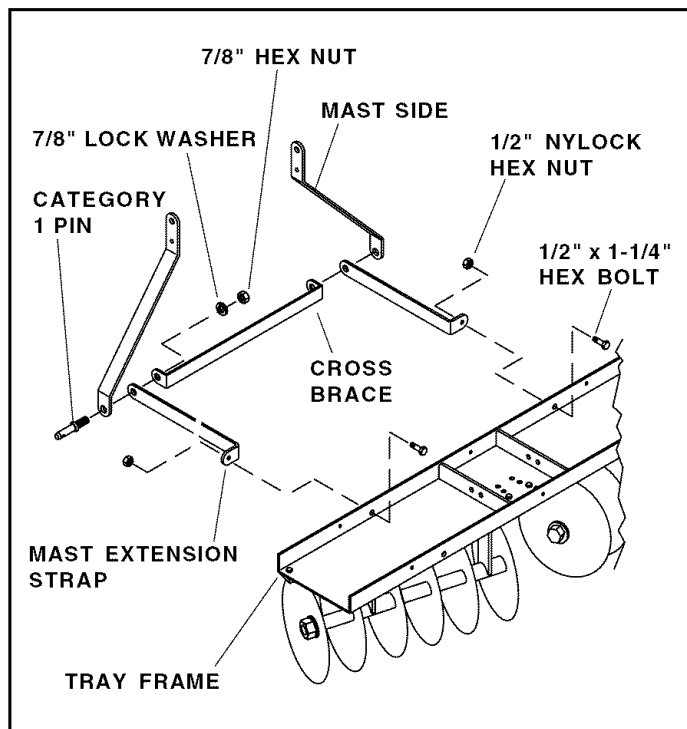

FIGURE 3
- Attach two mast extension straps to the front of the frame tray so that the bent end of each strap points outward. Use two 1/2" x 1-1/4" hex bolts and two 1/2" Nylock hex nuts. **Do not tighten yet.** See figure 3.
- At the other end of the mast extension straps, attach the cross brace to the inside and two mast sides to the outside of the straps. Use the two category 1 pins, two 7/8" lock washers, and two 1/2" x 1-1/4" hex bolts. **Do not tighten yet.** See figure 3.